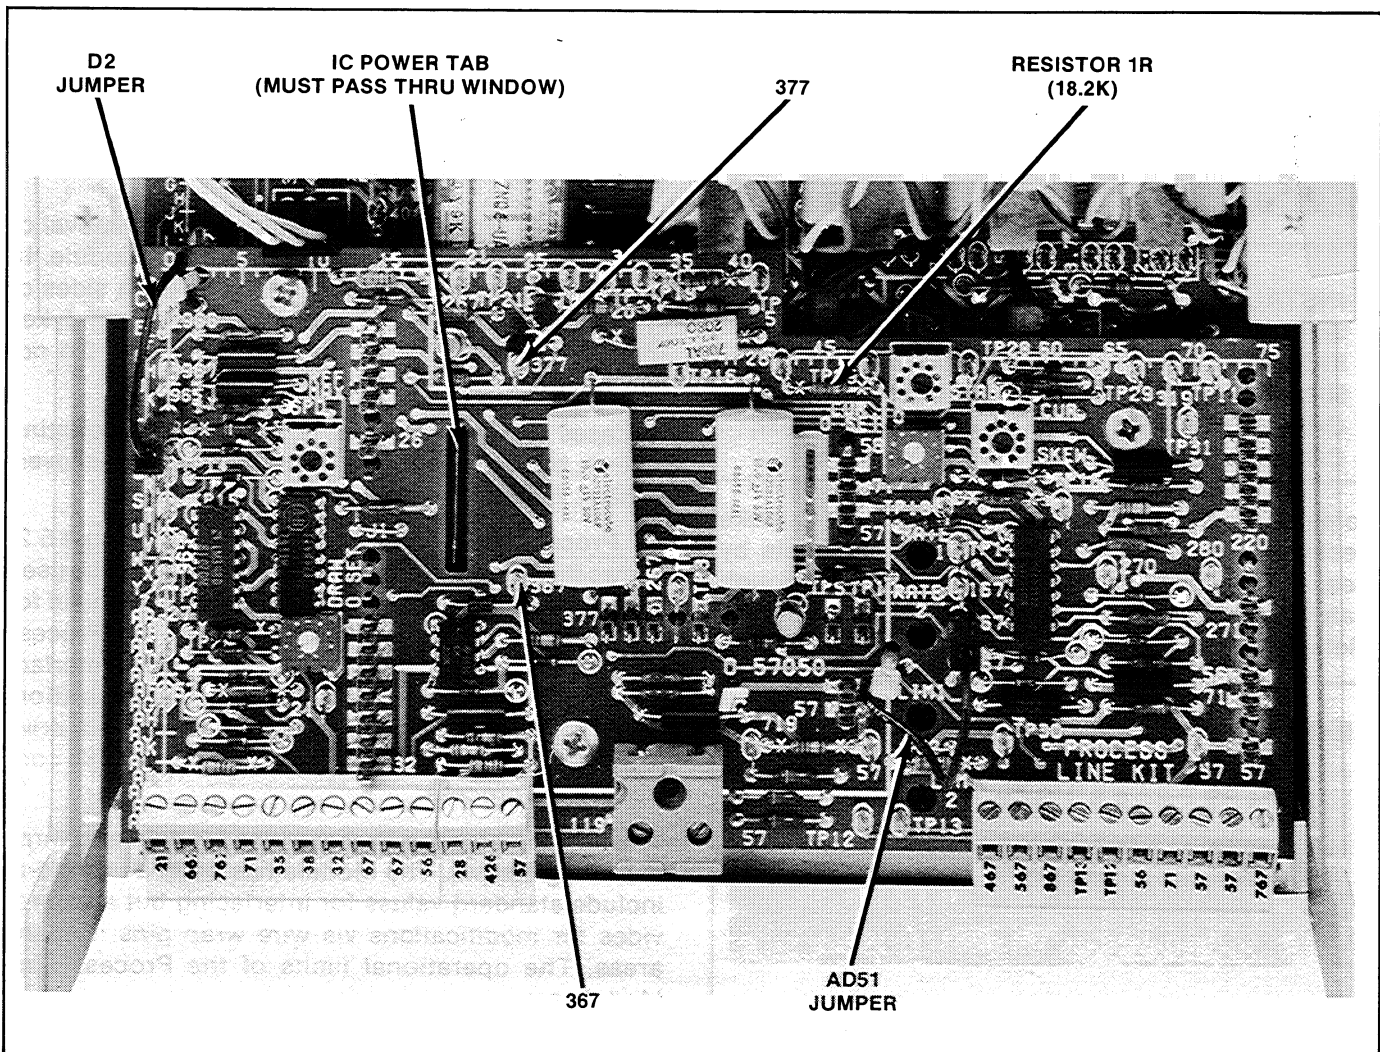

Figure 5.2. Process Line Kit installed on Regulator Module.
5.1 Process Line — The Process Line Kit (Figure 5.2) allows the Regenerative FlexPak Plus (S2R) to be used in most process line applications without the need for additional hardware in separate racks. The Process Line Kit includes circuitry for remote operator interfacing, tachometer feedback and standby operation. Applications include web process lines where a drive would have multiple sources of feedback signals controlling the process.